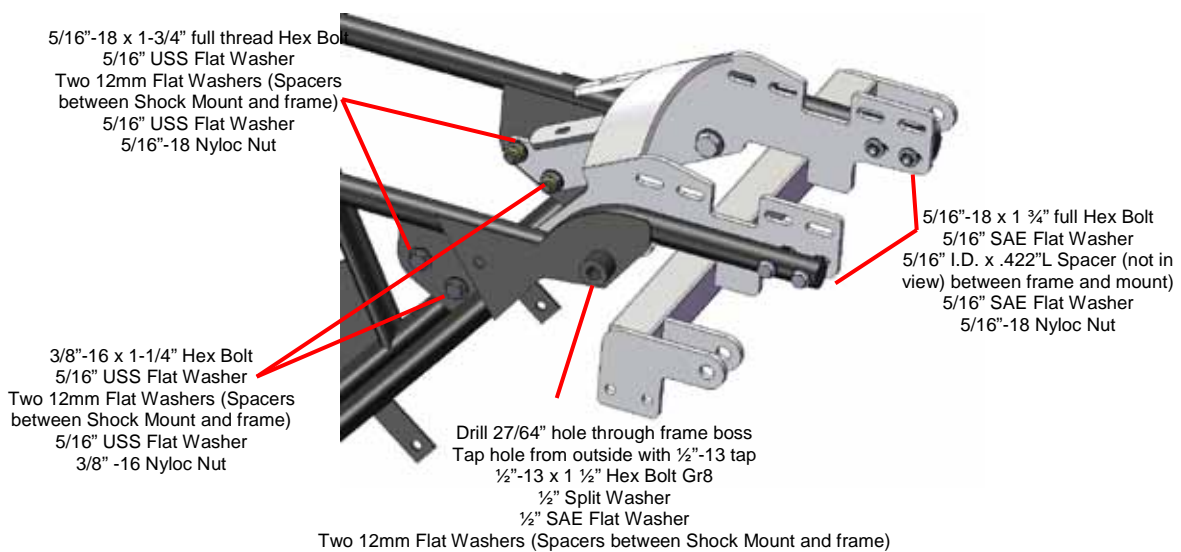

Figure 36
- Preinstall shock mount using fore and aft mounting hardware. Using a transfer punch, transfer (mark) the hole locations of the left and right frame bosses to the side plates of the shock mount. Remove shock mount and drill ½ holes through side plates at marks. Figure 36